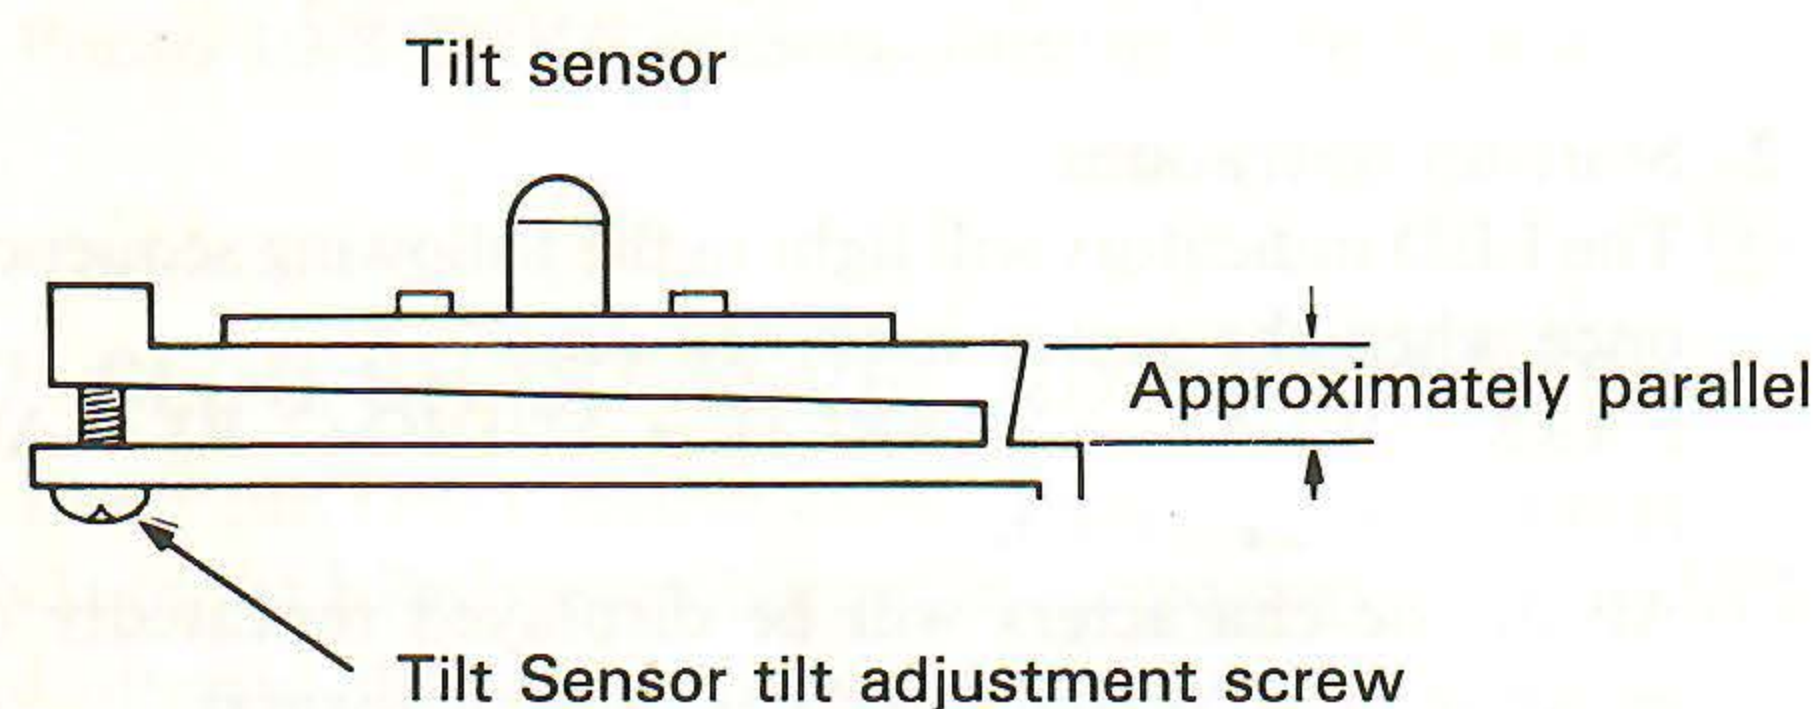

Fig. 10-3
3. Adjust the Tilt Sensor assembly tilt adjustment screw so that the tilt sensor PC board is roughly parallel with the board mount. (Fig. 10-3)